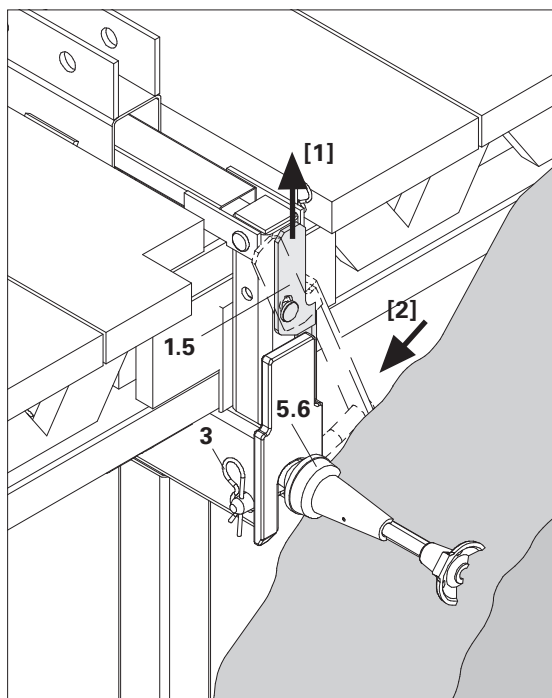

Fig. B1.23
7. Secure with cotter pins (3). (Fig. B1.23)